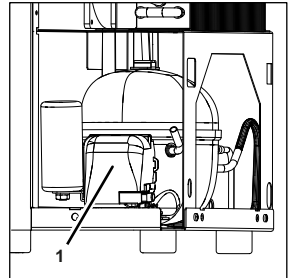

Figure 136
1. Remove the cover (Figure 136/1) from the electrical assembly.
6. Attach the cover (Figure 136/1) of the electrical assembly.